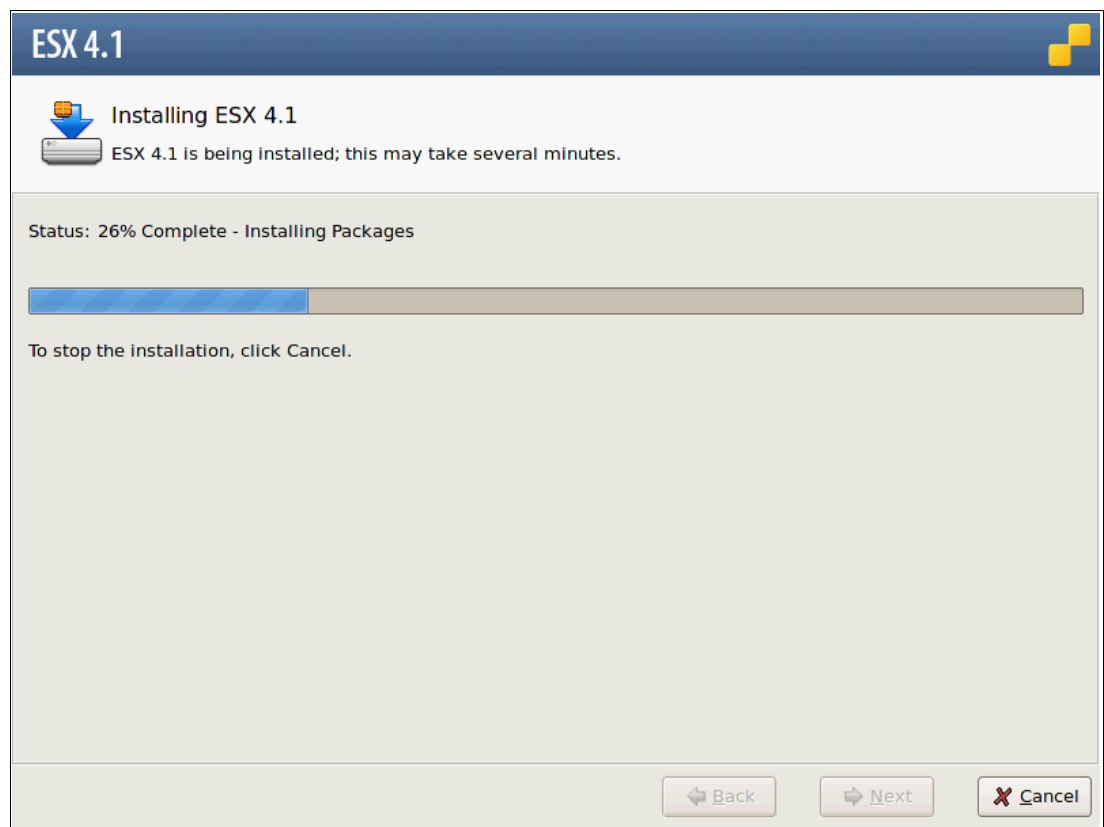

Figure 22-31 ESX installing
19. The ESX Installation starts copying files as shown in Figure 22-31.